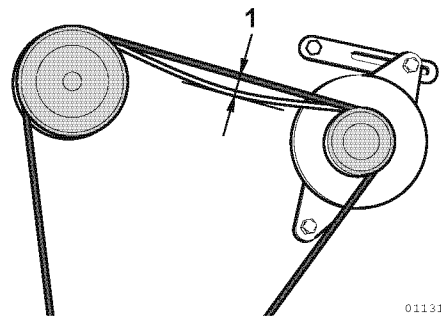

Figure 14
2. Check the belt by pushing on the middle of the belt (**Figure 14, (1)**) with your finger.